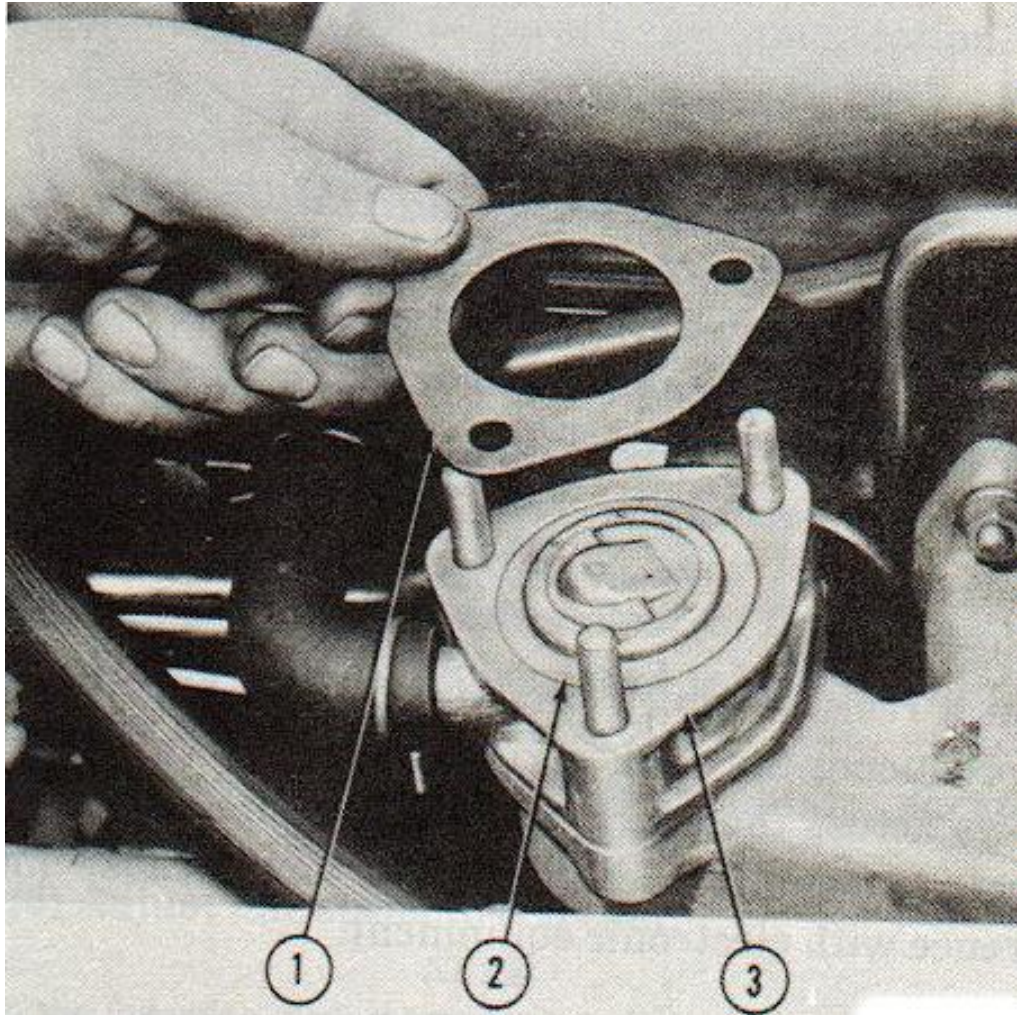

Figure 2-27. Thermostat Installation.
- (1) Install fan, fan pulley and drive belts as out lined in (c) above.
- (2) Tension belts in accordance with procedure outlined in paragraph 2-46j.
d. Thermostat and Bypass Housing. (Fig 2-27)
- (1) Apply sealant to gasket and position on in- take manifold studs.
- (2) Position thermostat bypass housing on gasket on intake manifold studs.
- (3) Install thermostat assembly in bypass housing.
- (4) Apply sealant to gasket and position on bypass housing.
- (5) Position water outlet elbow on bypass housing and secure with three hex nuts and lock washers. Tighten to 15-20 lbs-ft.
- (6) Connect radiator inlet (engine outlet) hose on water outlet elbow. Tighten clamp screw.
- (7) Connect bypass hose between cylinder head and thermostat bypass housing. Tighten clamp screw.
- (8) Fill radiator with a proper seasonal coolant solution in accordance with paragraph 2-46.
- (9) Start engine and check for leakage.